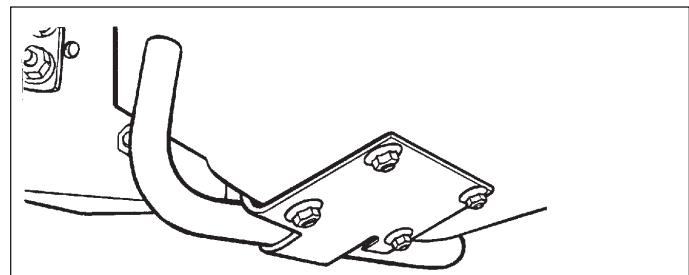

Figure 9. Engage Stone Guard Hook
2. Engage the stone guard hook at the bottom of the turbo as shown in Figure 9.